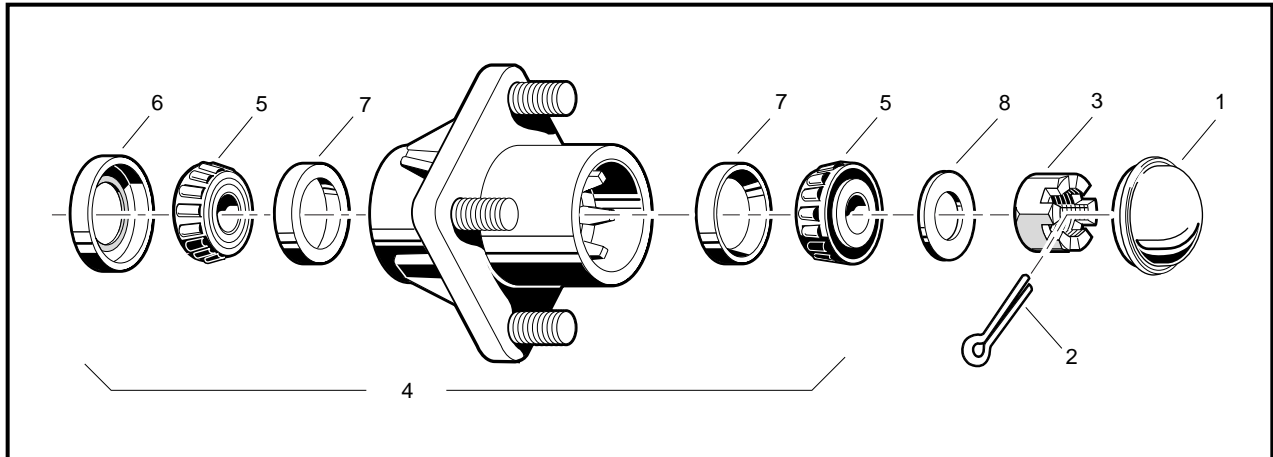

Figure 7-25 Front Wheel Bearings and Hub
2. Using your hands, attempt to rock the wheel and hub assembly back and forth on the spindle. If there is any observable movement of the wheel and hub on the spindle, remove dust cap (1) and cotter pin (2) and then tighten the spindle nut (3) until the bearing (5) fully seats in the bearing race (7).
4. Install a new cotter pin (2). If movement continues, replace the wheel bearings (5) as required (**Figure 7-25, Page 7-23**).
- 2.1. Remove dust cover (1), cotter pin (2), spindle nut (3), and flat washer (8) (**Figure 7-25, Page 7-23**).
- 2.2. Remove the hub assembly (4) from the spindle shaft (**Figure 7-25, Page 7-23**).
3. Remove the seal (6) and the bearings (5) from the hub (**Figure 7-25, Page 7-23**).
4. Inspect the bearing cups (7). If they are worn or pitted, remove the cups by inserting a drift punch from the opposite end of the hub and tapping lightly around them (**Figure 7-25, Page 7-23**).
6. Inspect the surface of the spindle shaft where the seal (6) seats. It should be clean and smooth (**Figure 7-25, Page 7-23**).
1. Pack the wheel bearings (5) and hub cavities, and lubricate cups (7) with wheel bearing grease or chassis lube. Make sure the grease is forced between the rollers (**Figure 7-25, Page 7-23**).
2. If bearing cups (7) were removed, press new ones in squarely against stops in the hub (**Figure 7-25, Page 7-23**).
3. Install the wheel bearings (5) into the hub and install a new seal (6), with the metal edge toward the hub (**Figure 7-25, Page 7-23**). See following NOTE.
4. Install the hub assembly (4) and flat washer (8) on the spindle and start the spindle nut (3) (**Figure 7-25, Page 7-23**).
5. Tighten the spindle nut until the hub is hard to turn, then back the nut (3) off until the hub turns freely. Install a new cotter pin (2) (**Figure 7-25, Page 7-23**).
7. Install the dust cap (1) (**Figure 7-25, Page 7-23**).